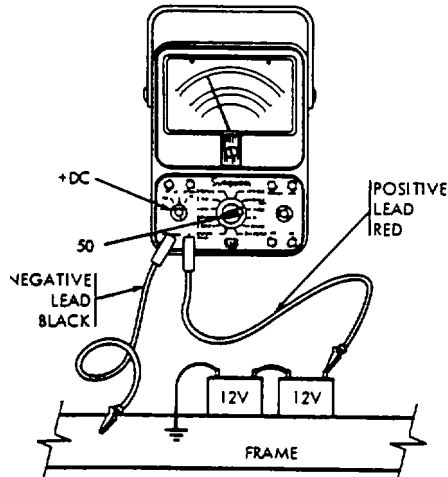

Figure 3-13. DC Voltage Check With Multimeter.
3-11. VOLTAGE CHECKS (DC) (Figure 3-13)